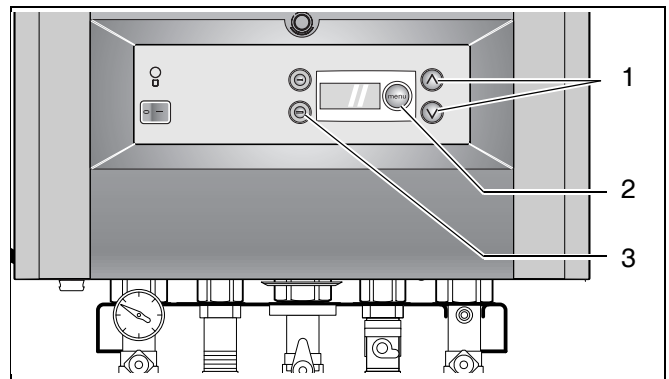

fig. 6 DBA – control panel
- Press E button (see fig. 6, item 2) twice then adjust the DHW temperature to the desired temperature (40 °C - 60 °C) using the C and D keys (see fig. 6, item 1). Factory setting is 48 °C.
- Press the E button (see fig. 6, item 2) three times. The current setting blinks.
- Press E button (see fig. 6, item 2) four times then adjust the flow temperature to the desired temperature (30 °C – 80 °C) using the C and D keys (see fig. 6, item 1). Factory setting is 80 °C.